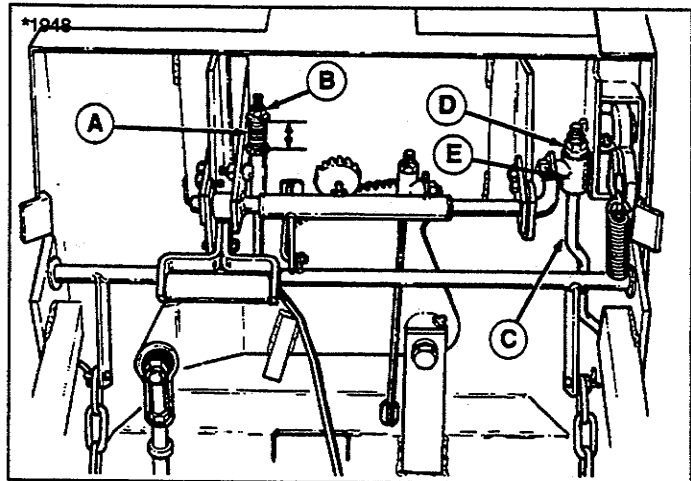

Figure 34. Clutch/Brake Adjustment
2. The clutch rod spring (A, figure 34) should measure 1-3/16" to 1-5/16" along the long side, between insides of washers. Tighten or loosen nut (B, figure 34) to adjust.
3. Pull the brake rod (C, figure 34) toward front as far as possible. Tighten or loosen nut (D, figure 34) to achieve a gap of 3/8" between rear surface of nut and the guide (E).